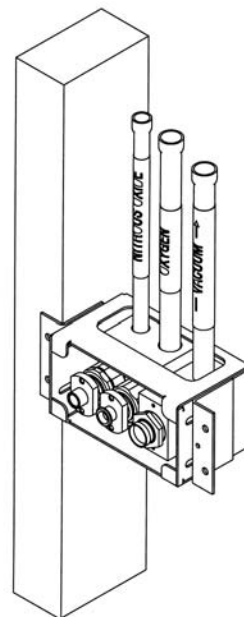

Figure 1
- LOCATION:** Select appropriate location for mounting station to a stud prior to installing drywall or wall board. Secure bracket (left or right side) to stud. (Figure 1)